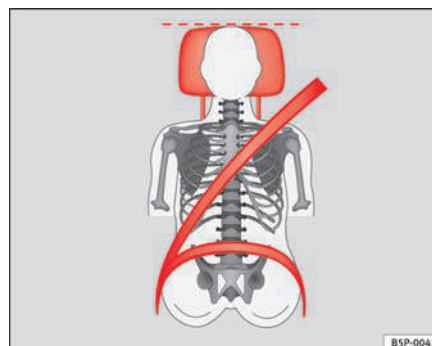

Fig. 12 Correct belt web and head restraint positions, viewed from front
- The shoulder belt must be positioned around the middle of the shoulder. The seat belt must lie flat and snugly on the torso ⇒ **page 22, fig. 12.**